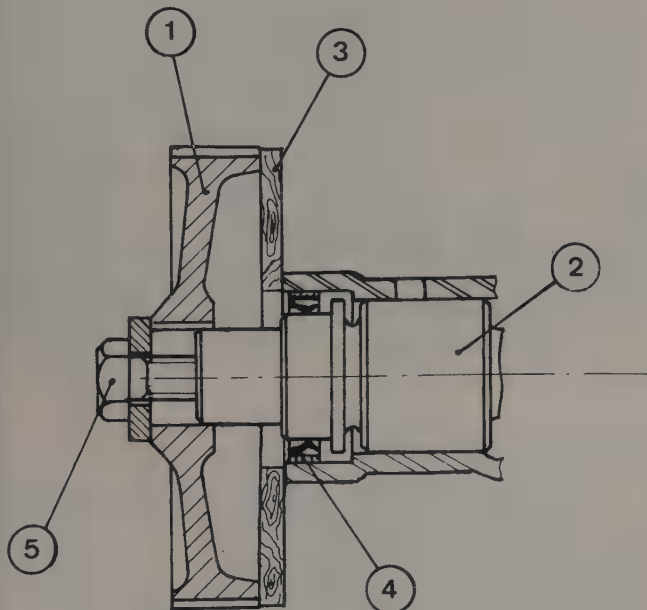

Fig. 1.22 Method of removing camshaft front oil seal (Sec 24)
- 9 To remove the front oil seal, refer to Fig. 1.22. Locate the sprocket the wrong way round on the camshaft, against two strips of metal or wood on the cylinder head. Insert and tighten the bolt, to pull out the camshaft and force out the oil seal (photo).